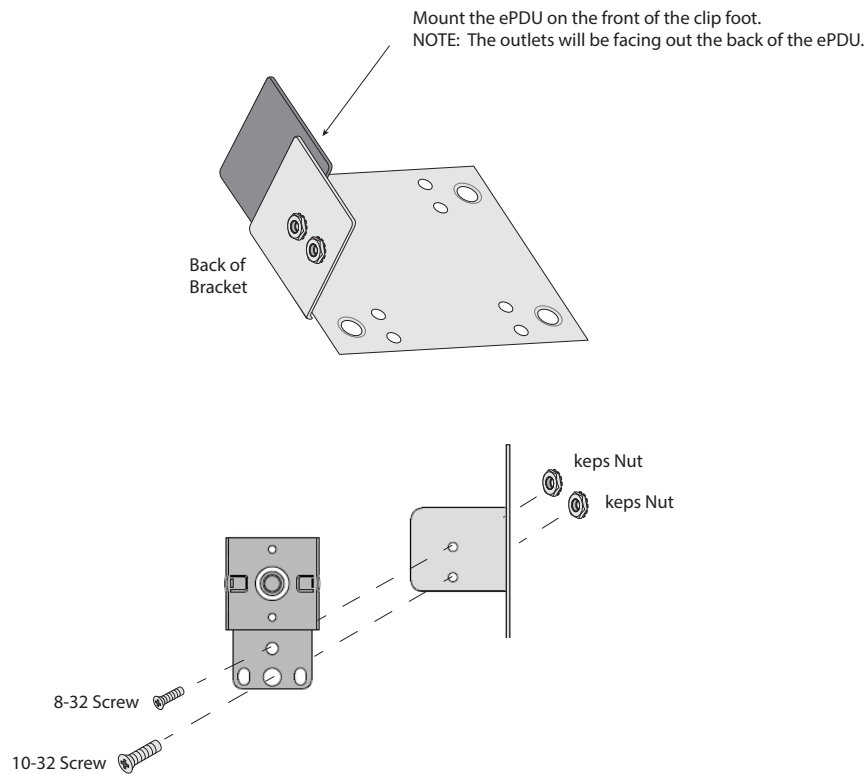

Figure 23. Single Rearward
- **One ePDU rearward.** Outlets facing out the back of the rack, go to Figure 23 on page 26.